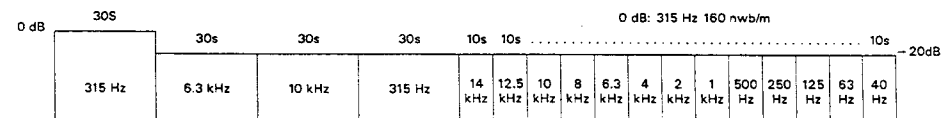

Fig. 8-1. Constants of the test tape STD-331B
- STD-331B : Playback adjustments (See Fig. 8-1)